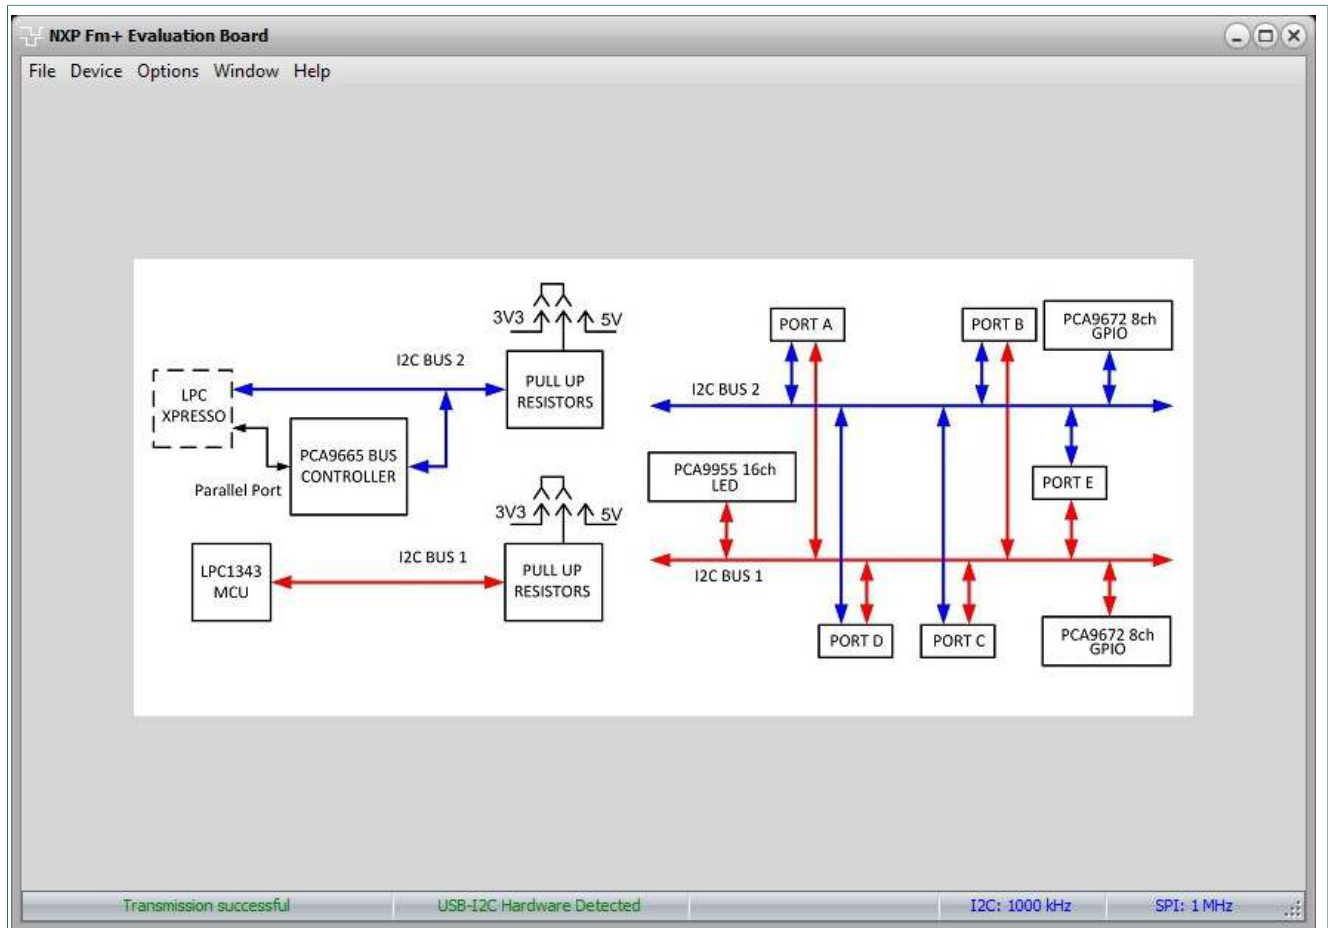
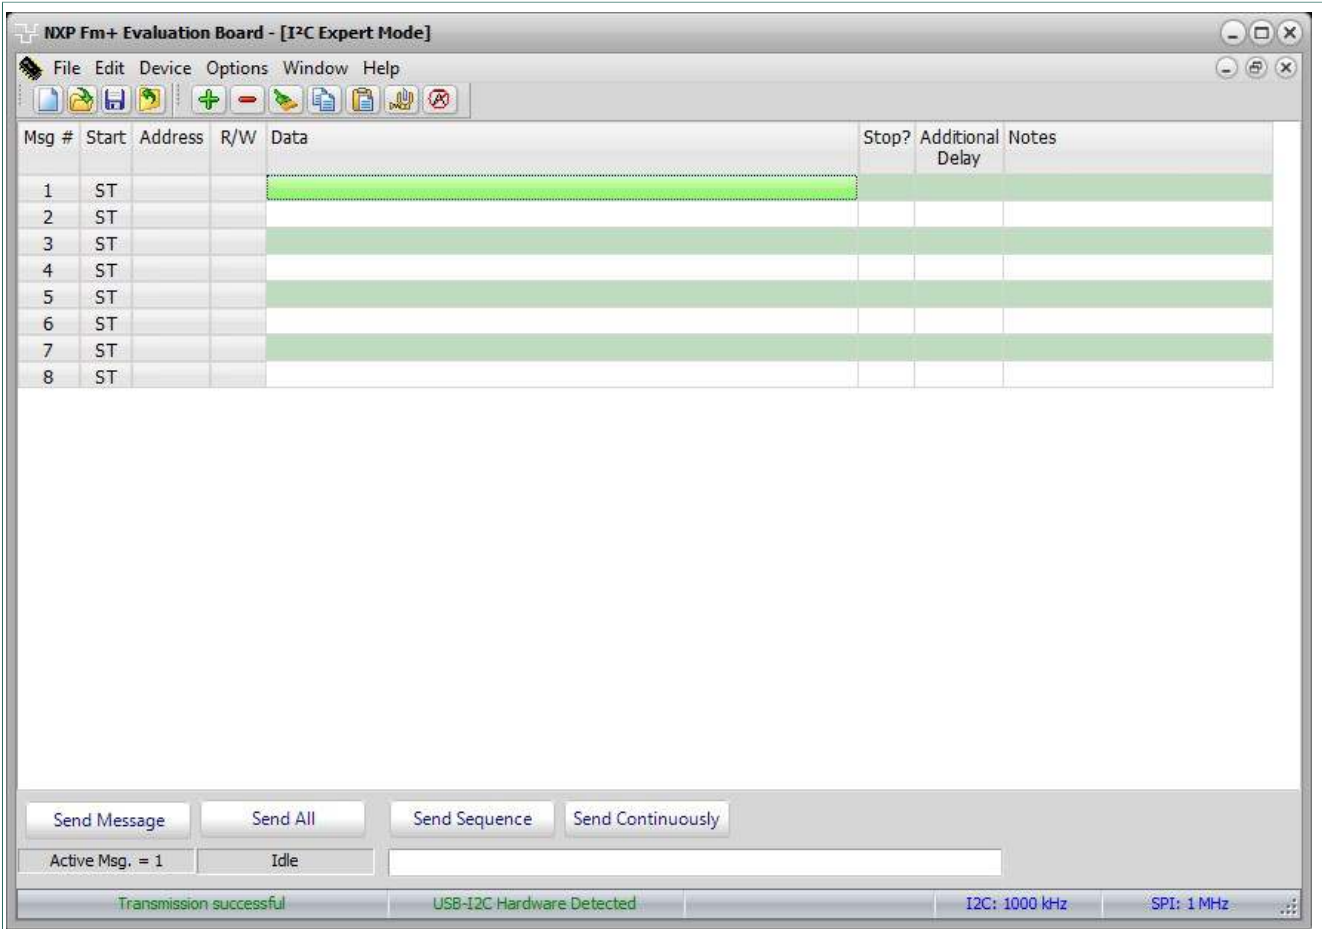

Figure 6. Select the Expert Mode from Fm+ development board GUI (1 of 2)
Figure 7. Select the Expert Mode from Fm+ development board GUI (2 of 2)
The PCAL6534 is controlled by the Fm+ development board GUI in Expert mode as shown in Figure 6 and Figure 7.
Connect the hardware as described in Section 5.2. All jumpers are in default setting and device address is set to 0x46h on J8 (set ADDR = VDDI) for PCAL6534 demo board. When you have correctly installed the software and the demonstration board hardware is connected and recognized by the computer, start the Fm+ development board software. As shown in Figure 7, when the demonstration board hardware is correctly connected to the USB port and the computer recognizes it, the message “USB-I2C Hardware Detected” is displayed on the bottom of the window.
1. From the ‘Device’ drop-down menus select ‘Expert Mode’ as shown in Figure 7.